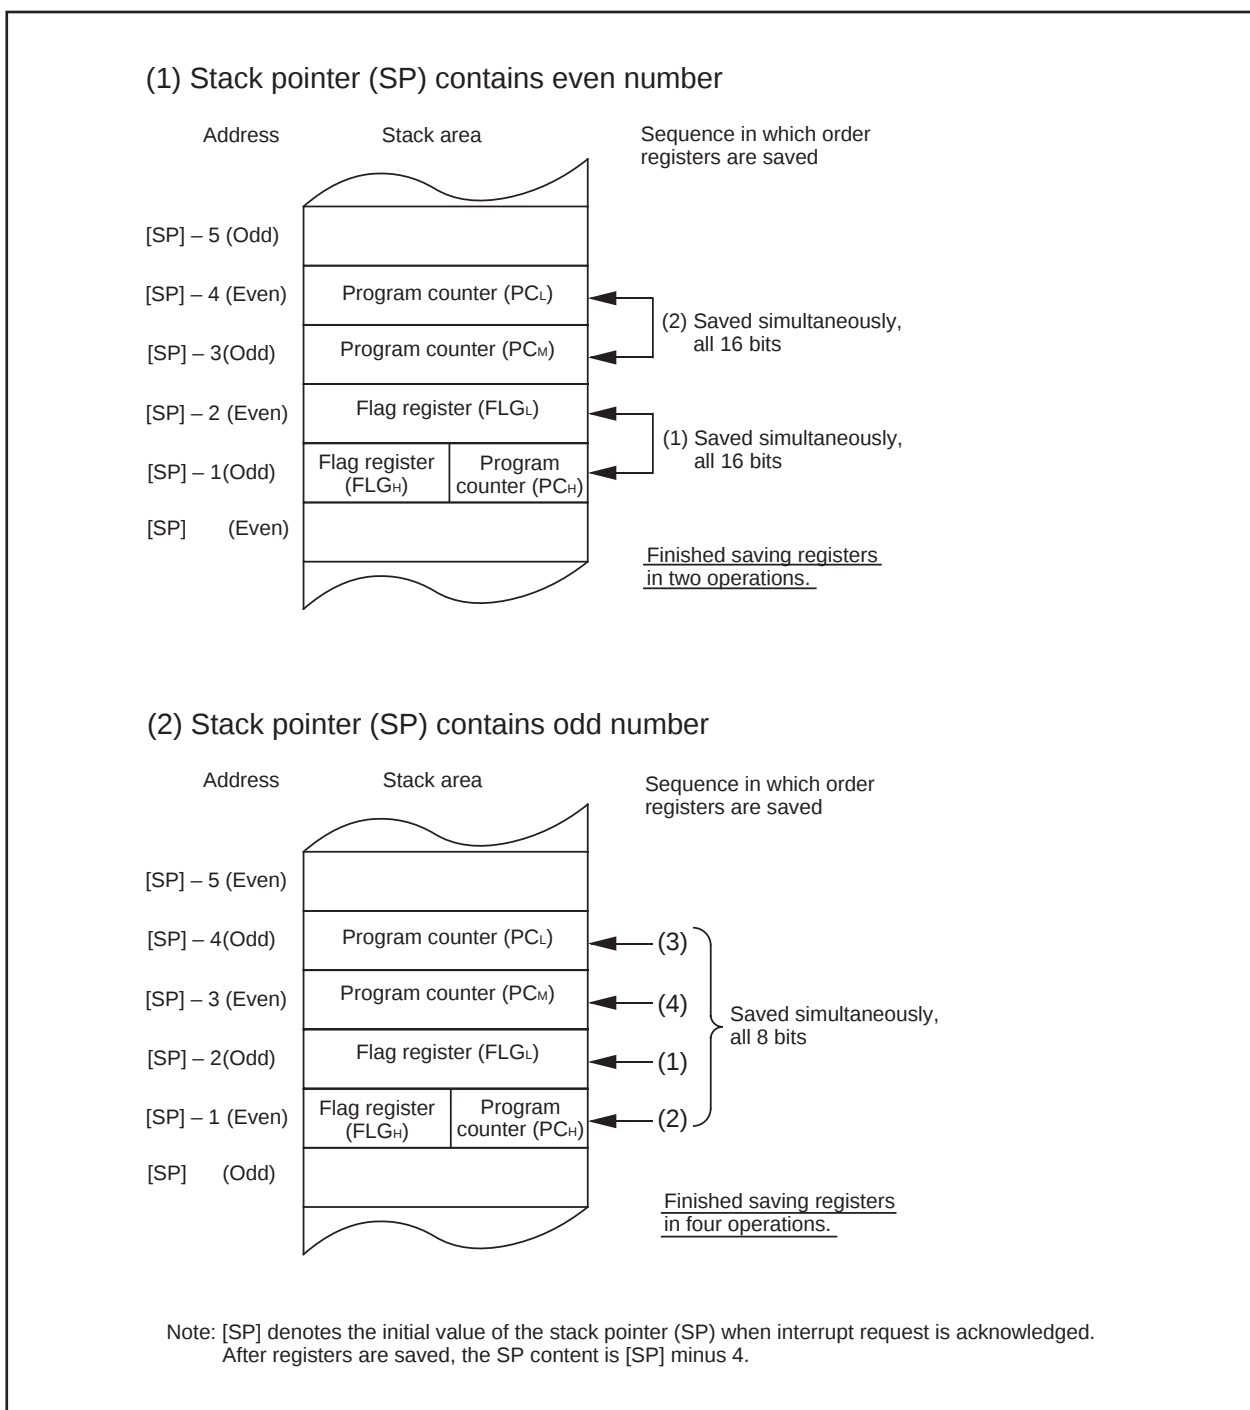

Figure 33. Operation of saving registers
The operation of saving registers carried out in the interrupt sequence is dependent on whether the content of the stack pointer, at the time of acceptance of an interrupt request, is even or odd. If the content of the stack pointer (Note) is even, the content of the flag register (FLG) and the content of the program counter (PC) are saved, 16 bits at a time. If odd, their contents are saved in two steps, 8 bits at a time. Figure 33 shows the operation of the saving registers.